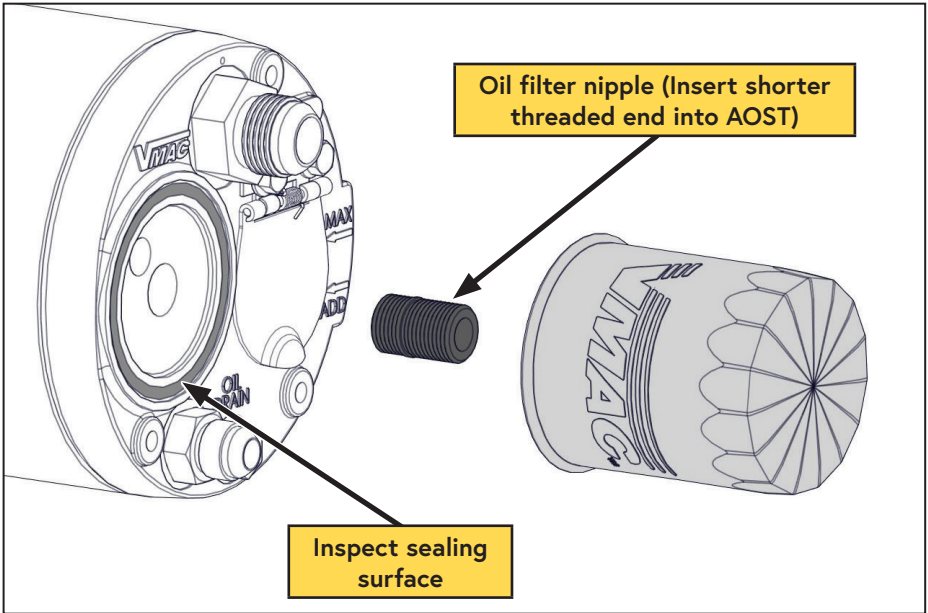

Figure 35 — Compressor oil filter
- ☐ \*To reinstall the nipple, thoroughly clean the threads and apply Loctite 242 (blue) to the end with the short threads and replace it in the AOST (Figure 35).
- ☐ Clean the gasket sealing surface on the front of the AOST and inspect it for damage. The surface must be free of old gasket material and smooth to ensure a good seal (Figure 35).